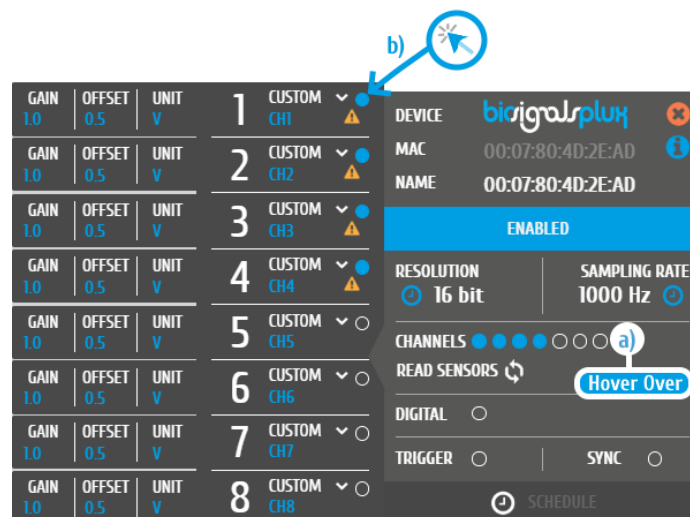

Figure 50: Channel configuration.
**a)** Hover over the *CHANNELS* field to open the list of available channels, **b)** activate or deactivate channels by clicking on the circles which are placed on the *CHANNELS* field or next to each single channel. Active channels are marked with blue circles, while inactive channels are marked by empty circles (e.g. in Figure 50 channels 1-4 are active, while channels 5-8 are not). Note, that if you have no sensor specific type selected for an active channel, a warning sign will appear on the respective channel (seen in the image below).
If a channel is activated, but no selection of sensor type has been made, the warning sign will be displayed on the selected channel as seen in Figure 50 (only in *OpenSignals (r)evolution* versions of June 2018 and newer).